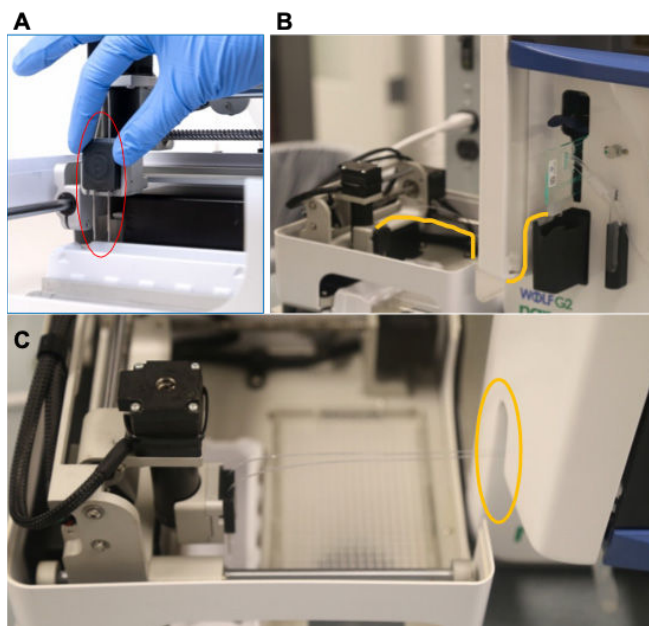

Figure 61. Cartridge assembly in the N1 Single-Cell Dispenser.
2. Attach the dispensing needles to the magnetic receptacle on the N1 dispensing arm (Fig. 61 A).
3. Thread the outlet tubing attached to the dispensing needle through the plastic flap within the WOLF G2 (Fig. 61 B).
4. Insert the cartridge in the instrument cartridge fixture. Route the output tubing through the grooves in the waste container (Fig. 61 B).
5. Connect the sample and sheath tubing to the peristaltic pumps and position the purge tubing into the priming vial (Fig. 61 C).